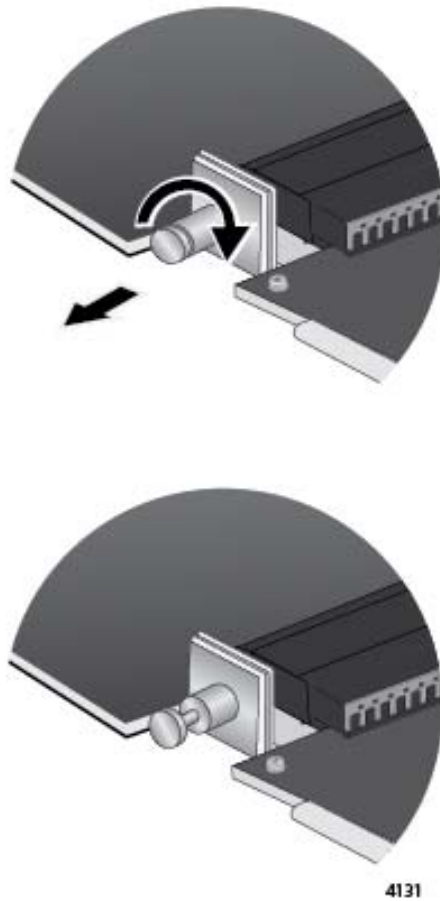

Figure 184. Retracting the Retaining Pin on the AT-SBx81XLEM Line Card
4. With your thumb and forefinger, pull out the retaining pin on the side of the line card and turn it clockwise one quarter turn until it remains in the retracted position. Refer to Figure 184.